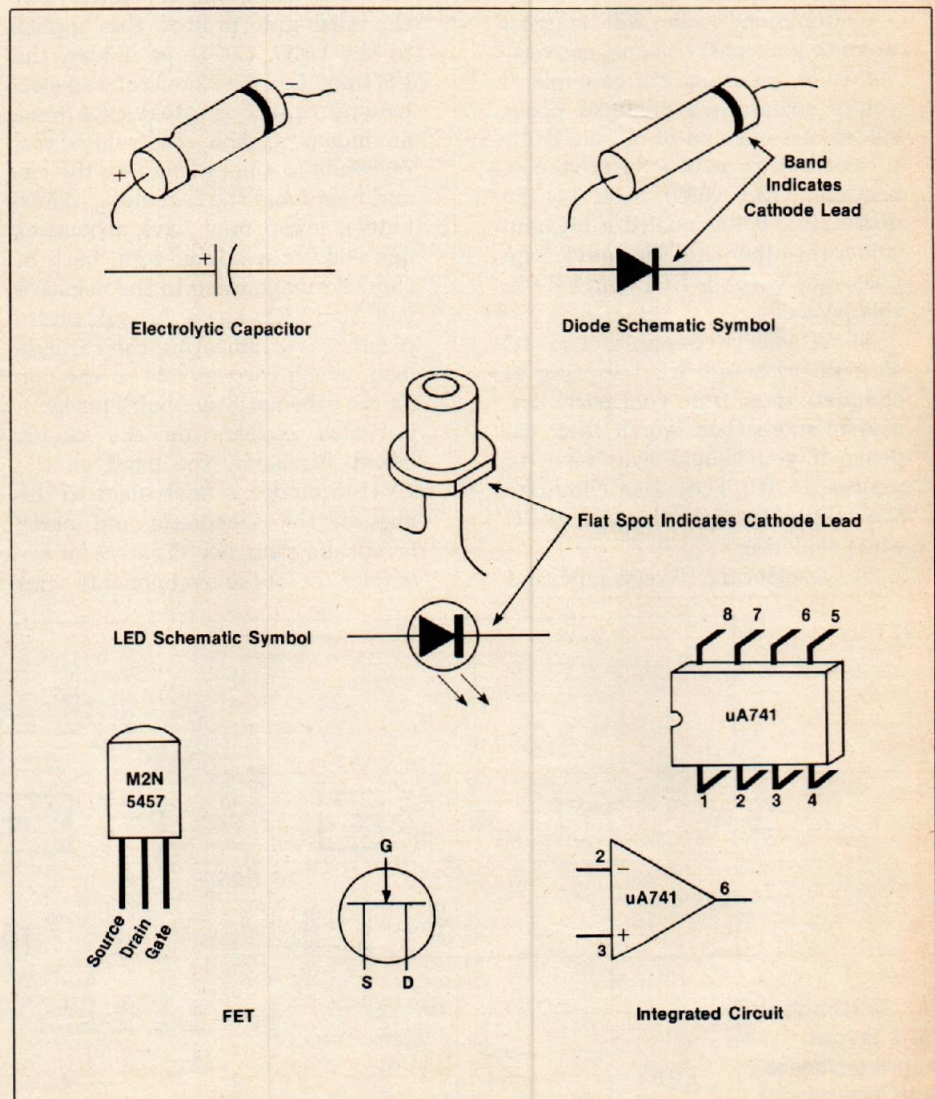

Fig. 1: Component polarities and schematic symbols.
6) Pay attention to polarity. For the noise gate project, this applies to the LED, the three diodes, the FET and C2, the 22 microfarad electrolytic capacitor. Most caps have an indent at one end, which corresponds to the (+) sign on the circuit board and the schematic. Alternately, a cap may have a band at one end, or a minus sign, both of these corresponding to the negative end. The LED has a flat side on its plastic case, indicating the cathode lead, which corresponds to the line on the schematic symbol. This symbol also appears on the circuit board. Similarly, the band on the 1N4148 diodes is equivalent to the line on the schematic and parts layout diagram. See *Figure 1* for examples of these components and